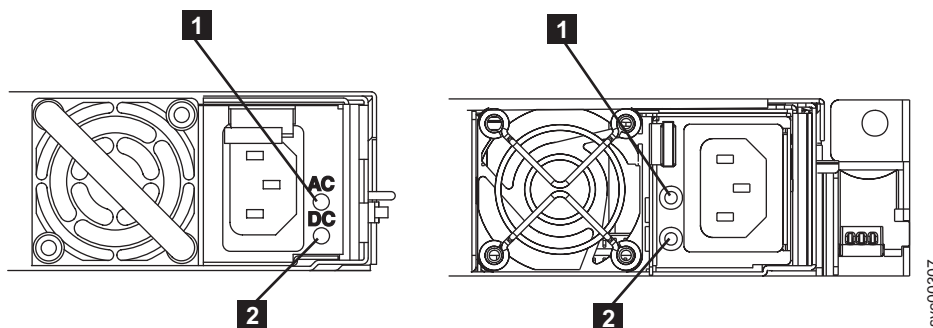
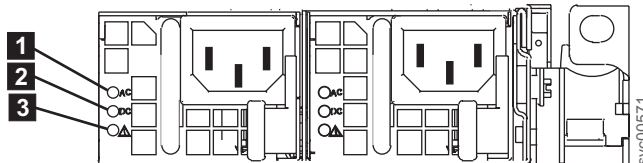

Figure 85. SAN Volume Controller models 2145-8G4 and 2145-8F4 or 2145-8F2 ac and dc LED indicators on the rear panel
Figure 86. Power LED indicator and ac and dc indicators on the rear panel of the SAN Volume Controller 2145-CF8
**Are the ac LED indicators on the rear of the power supply assemblies illuminated?** Figure 85 shows the location of the ac LED **1** and the dc LED **2** on the rear of the power supply assembly that is on the rear panel of the 2145-8G4, 2145-8F4, or 2145-8F2 nodes. Figure 86 shows the location of the ac LED **1** and the dc LED **2** on the rear of the power supply assembly that is on the rear panel of the 2145-CF8.